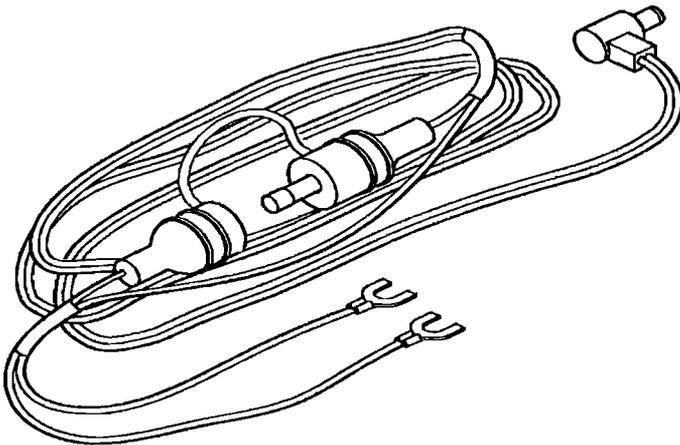

Figure 8-4 Replace External Power Cable Fuse.
8.1.1.4 External Power Cable Fuse Replacement. This procedure is used to replace the 2A/250V fuse in the in-line fuse holder installed in the positive lead of the external power cable. Refer to Figure 8-4.